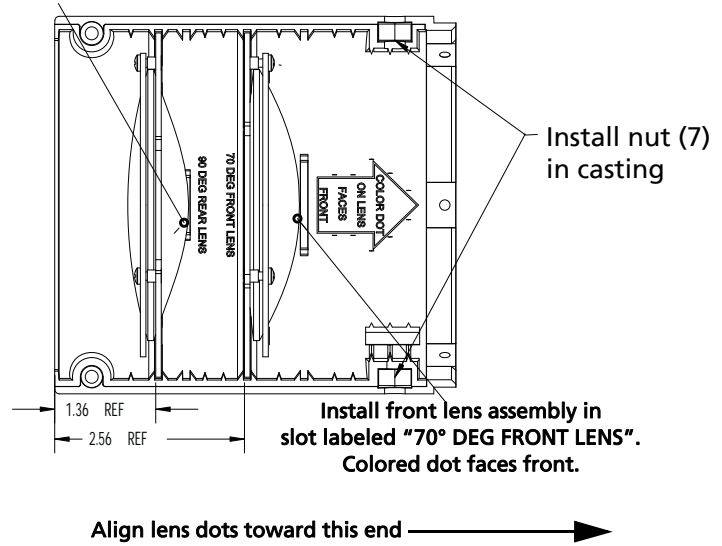

Figure 24
- 1: See Figure 24. Place the rear lens (1) into the mounting plate (2) with paint dots facing forward. Center the lens in the mounting plate and secure with the retaining ring (3) and screws (6). Lightly tighten all three screws while maintaining the lens position, and then tighten the screws securely.
- 2: See Figure 24. Place the front lens (4) into the mounting plate (5) with paint dots facing forward. Center the lens in the mounting plate and secure with the retaining ring (3) and screws (6). Lightly tighten all three screws while maintaining the lens position, and then tighten the screws securely.